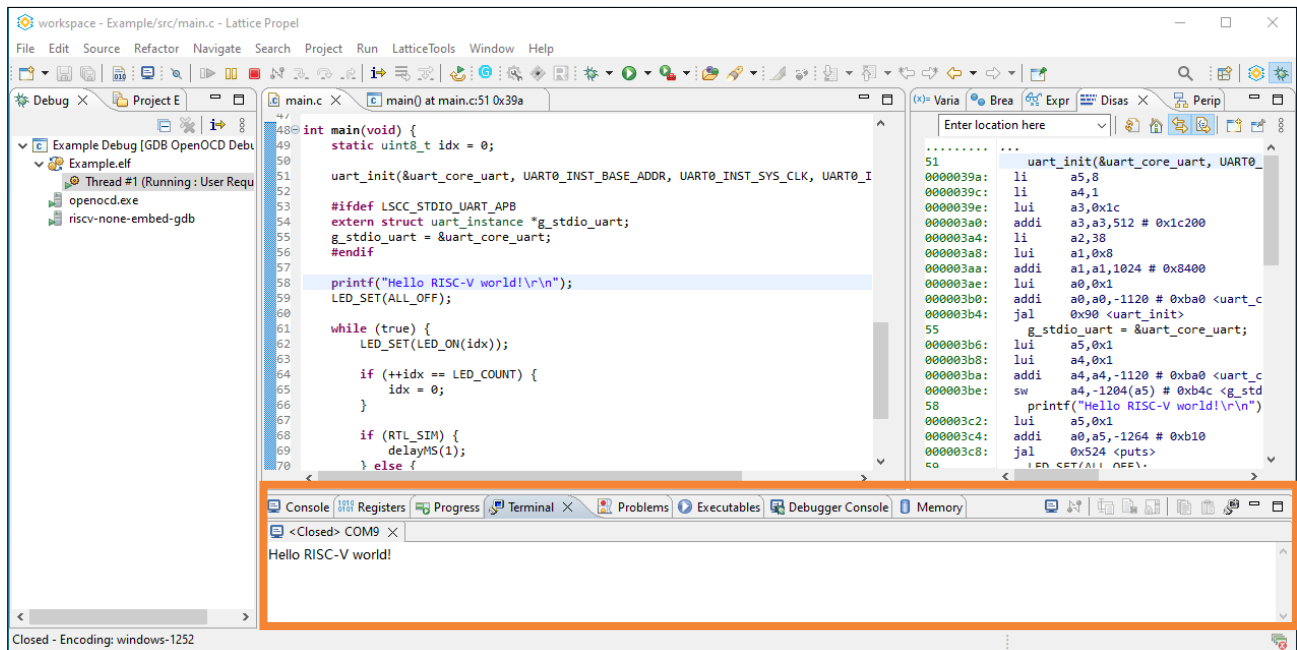

Figure 4.14. Run_RESULT of Hello World Project
9. Click the **Resume** icon  on the toolbar. The serial terminal outputs *Hello RISC-V world!* (Figure 4.14).